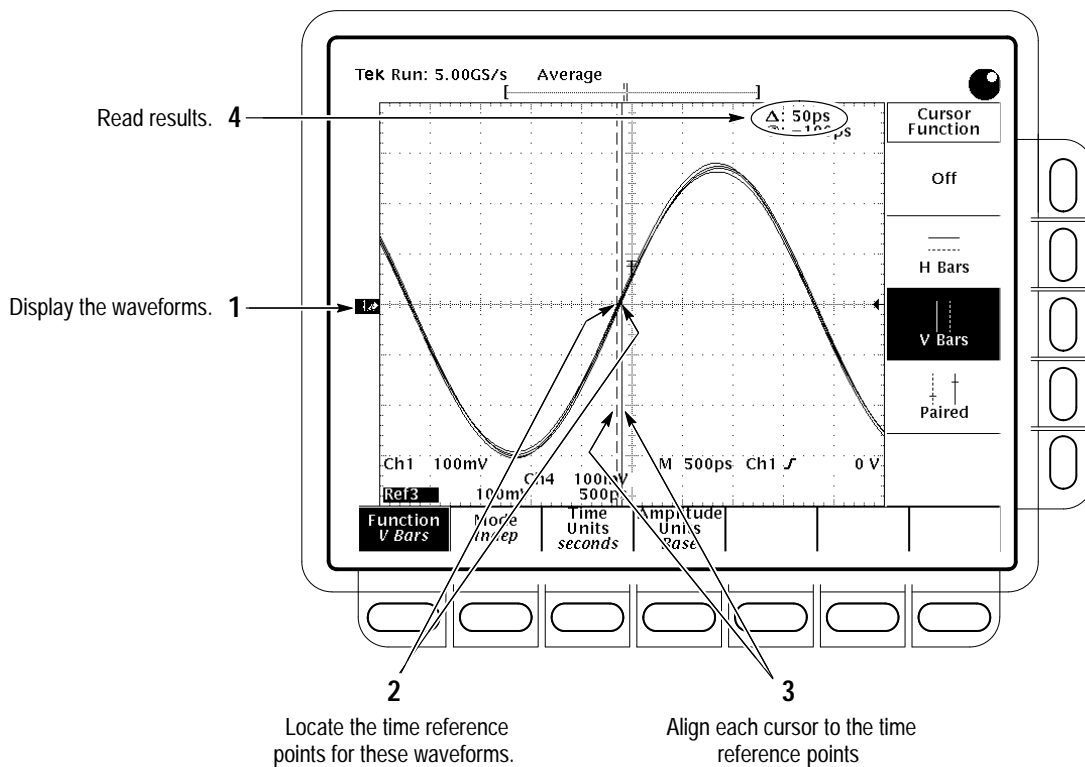

Figure 1–10: Measurement of Channel Delay – TDS 684A Shown
- Align one V bar cursor to the *time reference point* of the left-most waveform edge and the other cursor to the *time reference point* of the right-most waveform edge by rotating the General Purpose knob. (Press **SELECT** to switch between the two cursors.) See Figure 1–10 on page 1–40.